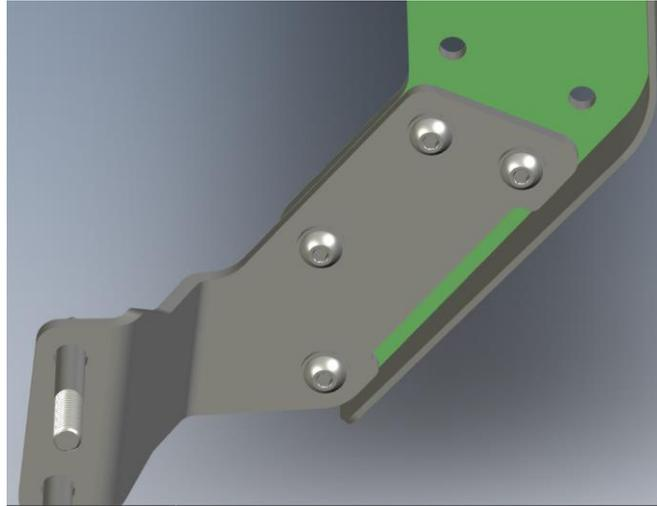

Figure 20
6. Loosely install AEV Lower Weldment utilizing M8 button head screw (6mm hex), M8 washer, and M8 nut provided. - Fig. 20